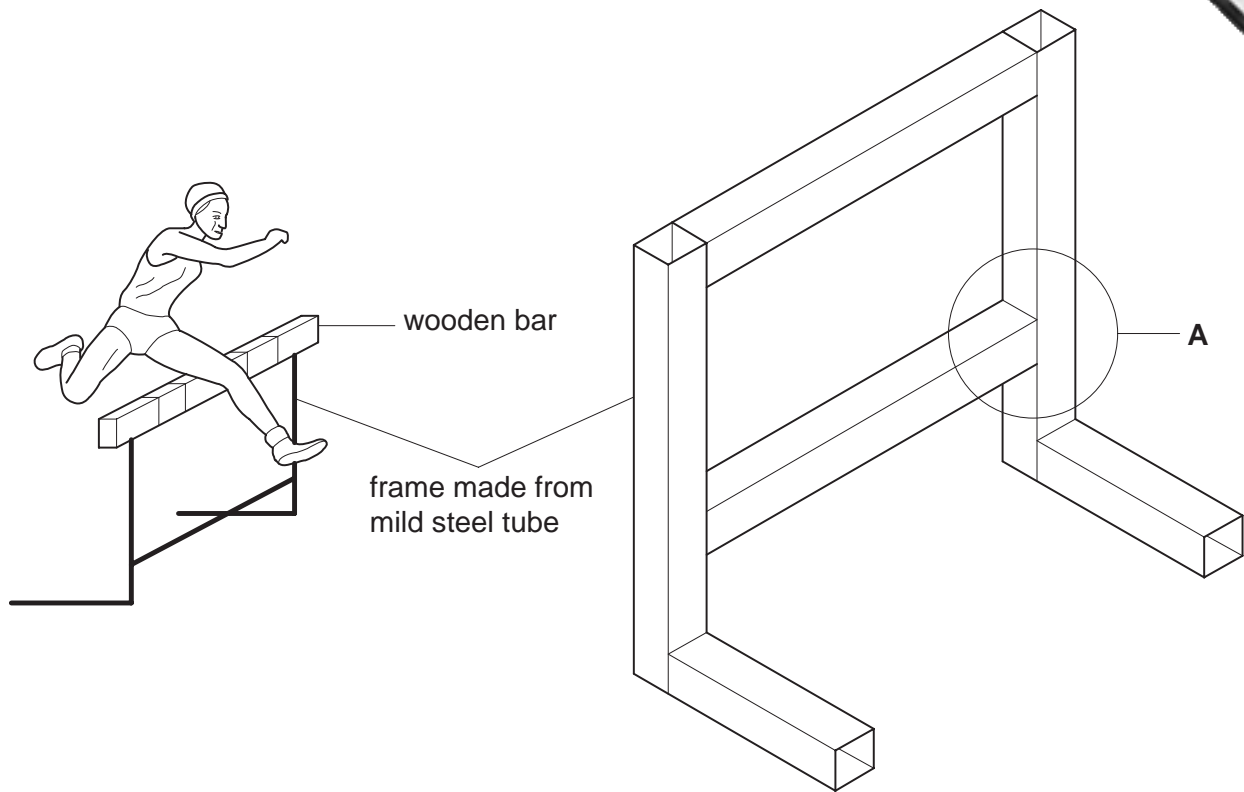

Fig. 13
- 11 Fig. 13 shows an athletics hurdle made from mild steel tube and wood. The hurdle is used outside.